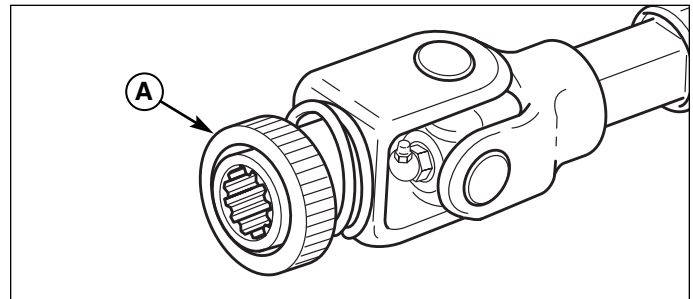

Figure 25. Attach Drive Shaft
9. See Figure 25. Attach the drive shaft. Pull back on the locking collar (A) and slide the drive shaft fully onto the snowthrower. Release the locking collar and pull back on the drive shaft until the locking collar locks onto the shaft.
2. See Figure 25. Disconnect the drive shaft by pulling back on the locking collar (A) and then pulling the shaft off.